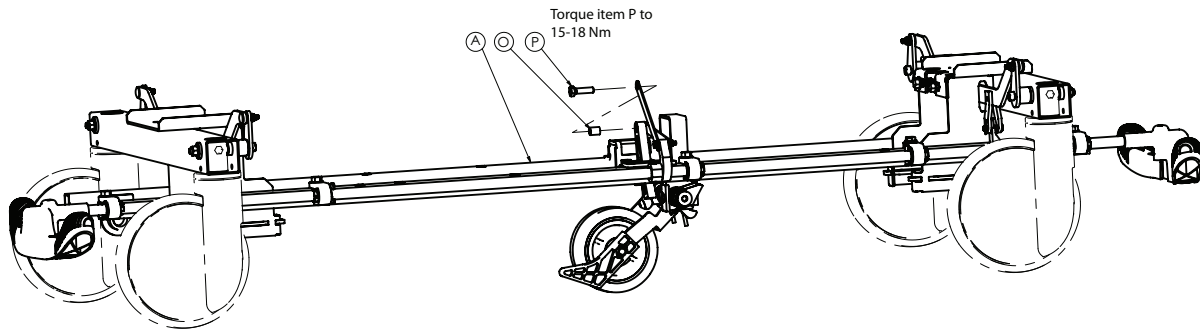

Figure 8 – Brake rod replacement
- Use a 13 mm wrench, 13 mm socket wrench, and a 3/8" drive ratchet to remove and save the hex head screw (P), hex nut, and cam bearing (O) that secure the fifth wheel drive link assembly to the brake rod assembly (Figure 8).